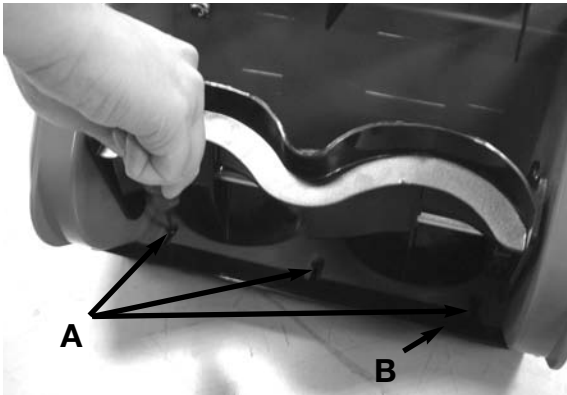

Fig. 10
2. Beneath the rotor, locate the 3 screws (A) securing the plate (B) to the housing. Remove them using a #T20 Torx bit or flat blade screwdriver. (Fig. 10)